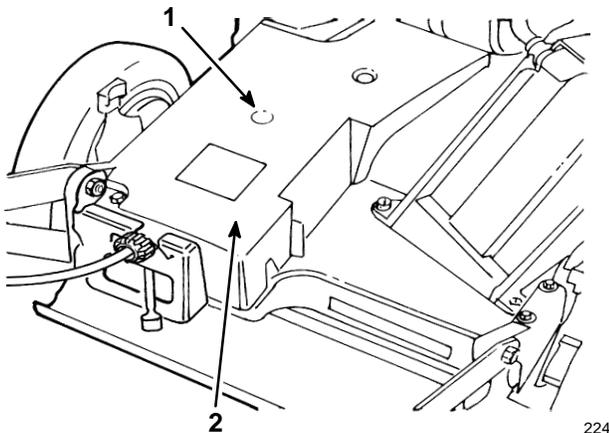

Figure 26
2. Install grease gun onto fitting thru belt cover opening (Fig. 26). Gently apply 1–2 pumps of grease.
1. Remove bolts securing belt cover (Fig. 26) to mower housing. Lift off cover and brush out all debris from belt area. Reinstall belt cover.